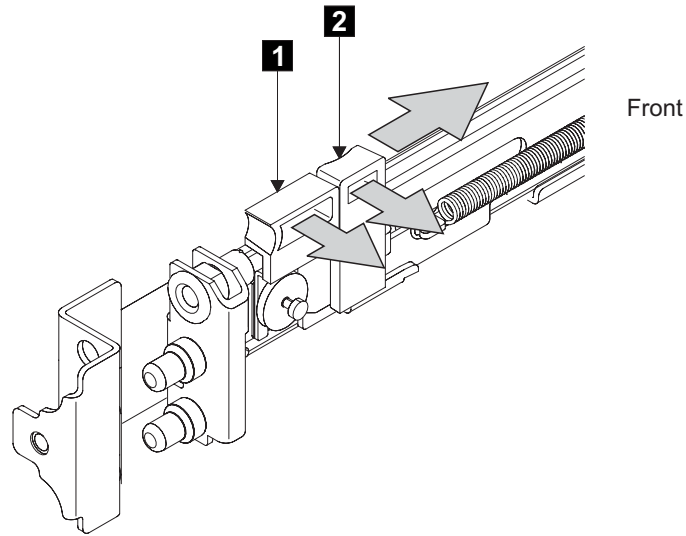

Figure 126. Opening the front latch-lock carrier assembly
5. Gently push the latch lock **2** (Figure 126 on page 209) away from the rail as you move the latch lever **1** towards the far end of the rail. The latch-lock carrier assembly slides against the spring tension.